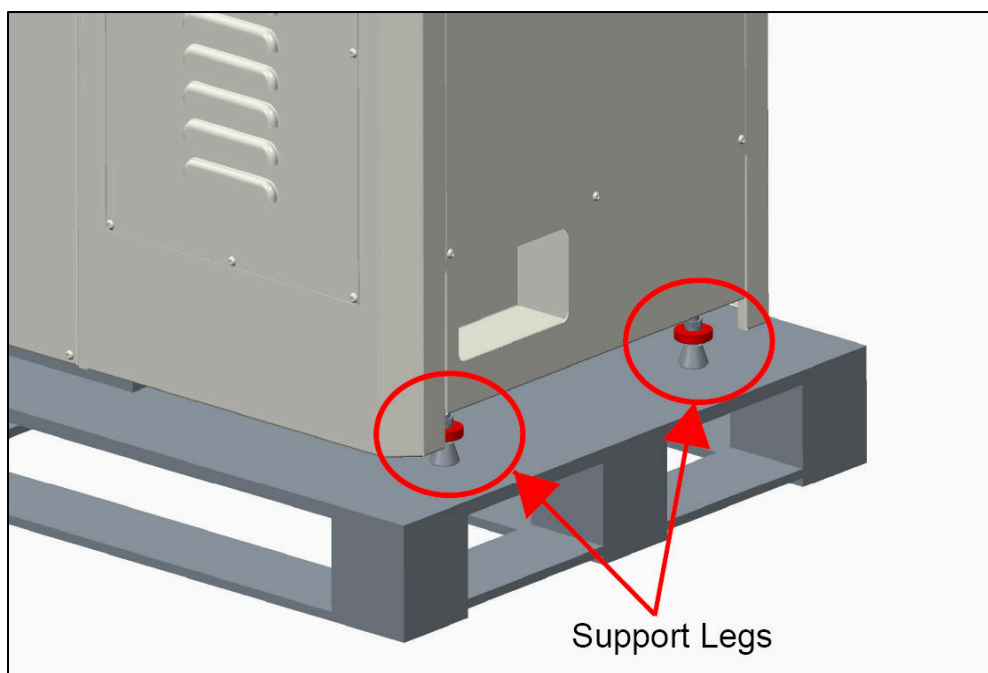

Fig.9
Step 2: As **Fig.9** indicated, at the bottom, you can find two support legs, turn the red handles to raise legs up about 25mm (1 inch).
6. When the equipment is in place, turn the red handles (see *Fig.9*) to make the support legs touch the ground.